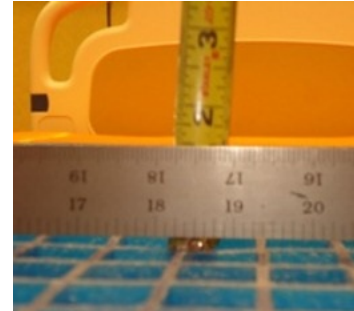

Figure 5 – Measure maximum depth
- Using a tape measure, measure the maximum depth (lowest point) from the bottom of the straight edge to the top of the foam (Figure 5).